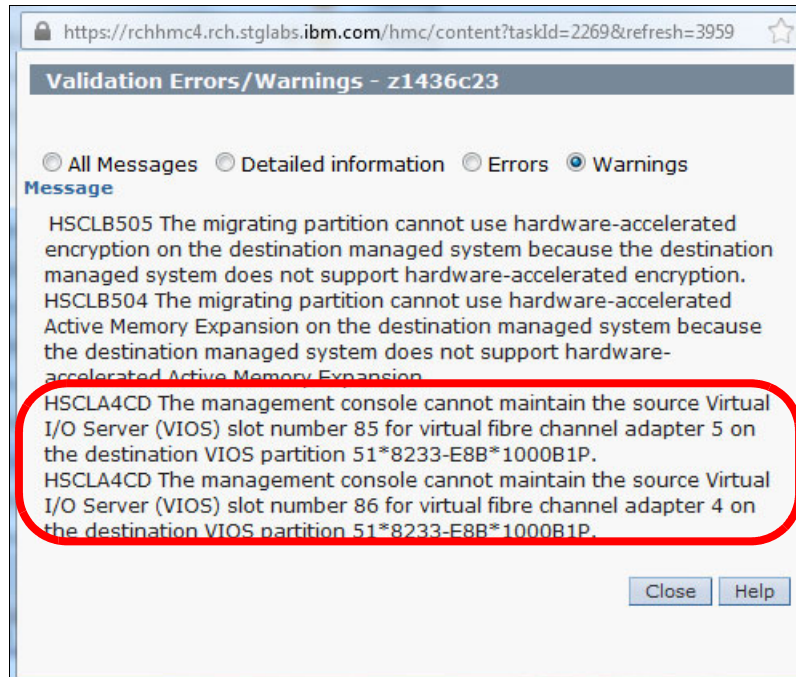

Figure 5-21 Live Partition Mobility warning message regarding slot numbers
- ▶ A warning message is shown during validation if the slot numbers for server virtual Fibre Channel adapters or server virtual SCSI adapters cannot be retained, as shown in Figure 5-21. This is a warning only and it does not stop the migration process.